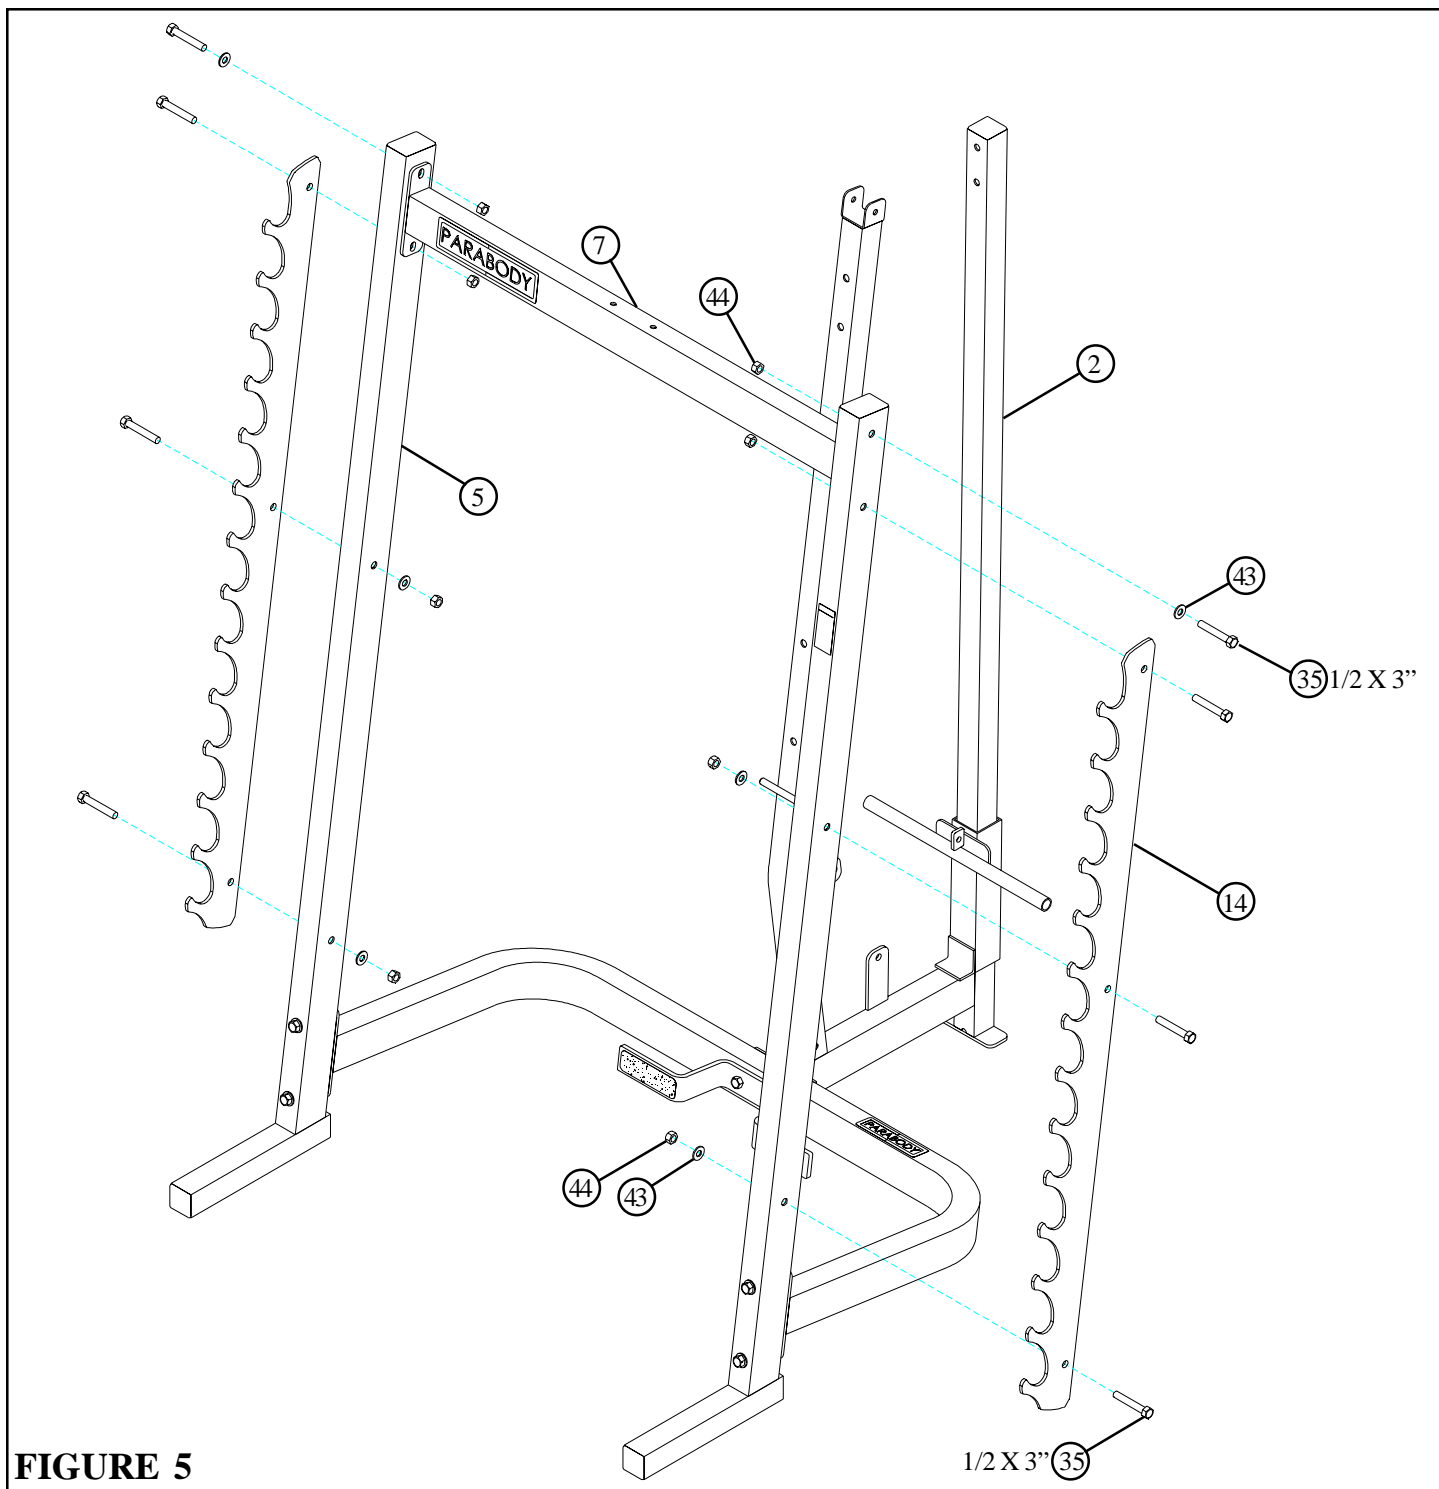

**FIGURE 4**
- **LOOSELY** assemble the FOOT PLATE (6) and the UPRIGHT FRAME (2) to the UPRIGHT SUPPORT (4) using two 1/2" X 3-1/4" BOLTS (36) and two 1/2" LOCK NUTS (44) as shown in FIGURE 4.
- Slide the CARRIAGE (13) over the UPRIGHT FRAME (2) as shown in FIGURE 4.
- Insert one 2" SQ. END CAPS (22) to the end of the UPRIGHT FRAME (2) as shown in FIGURE 4.